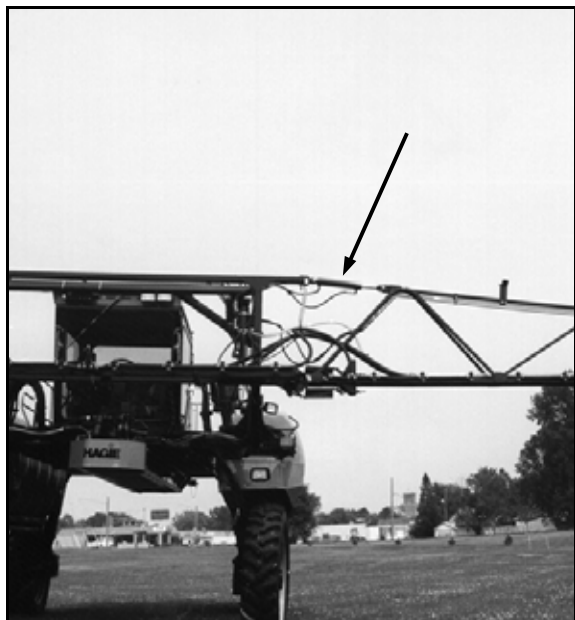
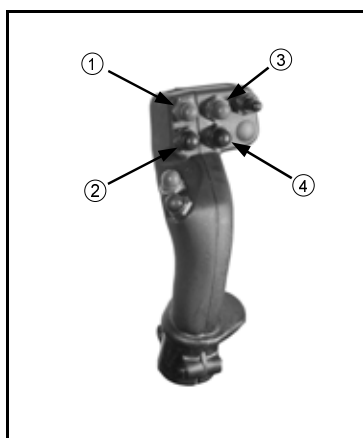

FIG 5.28
FIG 5.29
To increase or decrease the angle of each individual boom level, depress the left or right “GRAY” (UP) or the left or right “RED” (DOWN) buttons on the hydrostatic drive handle (fig. 5.29, items 1 thru 4). While depressed, these buttons activate the level cylinders connecting either boom to the transom (fig. 5.28).